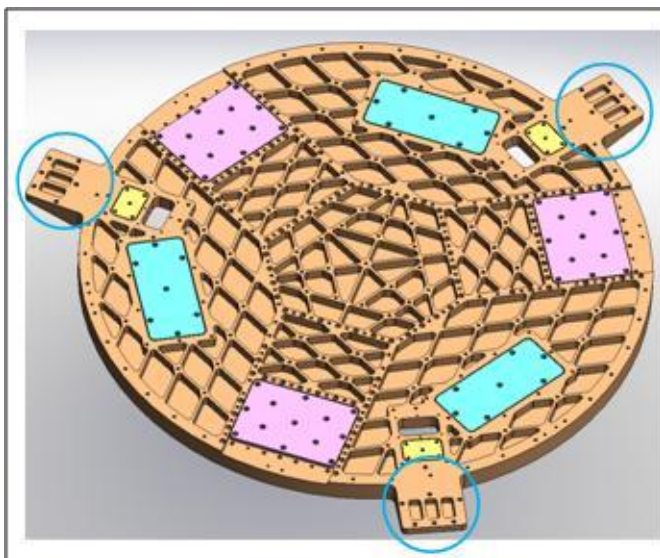
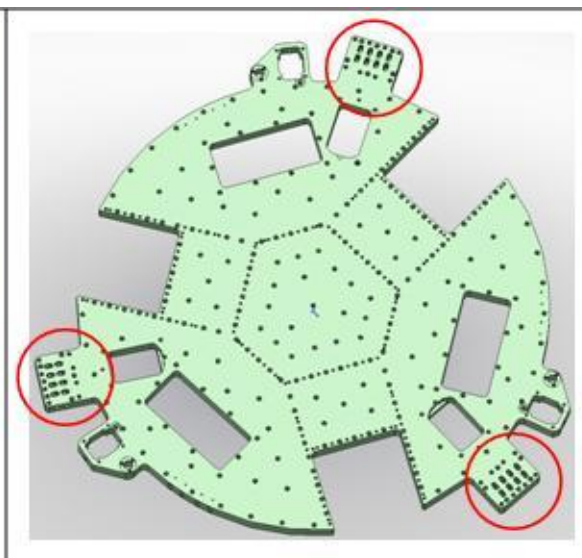

Figure 14: D0901516 Solid Optical Table (ribs side up) with covers
Figure 15: D0901517 Cut-Out Optical Table (ribs side down)
- Position D0901517 Cut-Out Optical Table – ribs side down - such that the areas of the spring blade circled in blue and red on Figure 14 & Figure 15 match. The final alignment is done by locating the 3 pins of D0901516 in the 3 slots of D0901517.